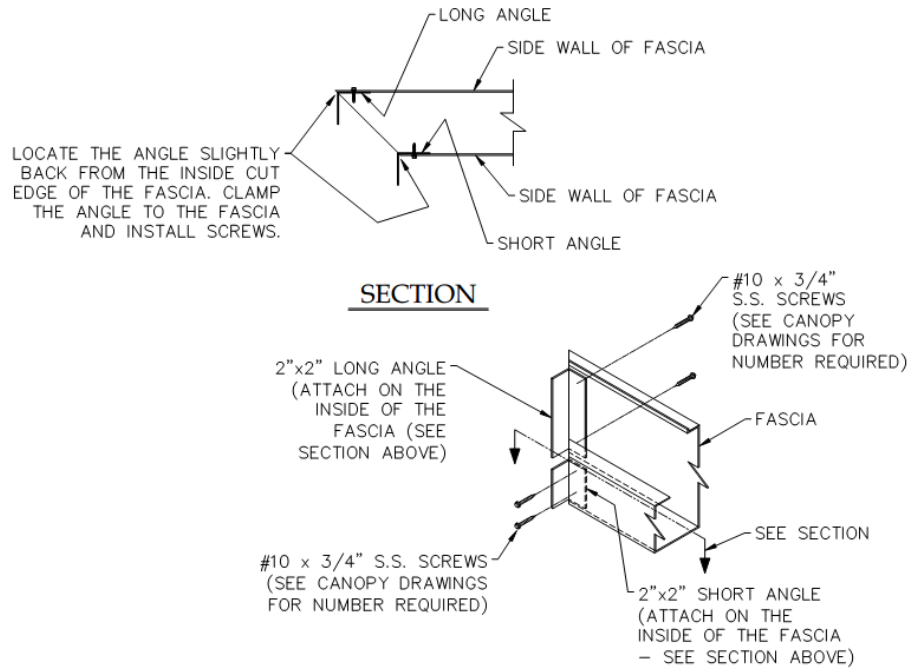

FIGURE 4
- A. Attach the outside and inside corner angles to the end fascia pieces (Figure 4).